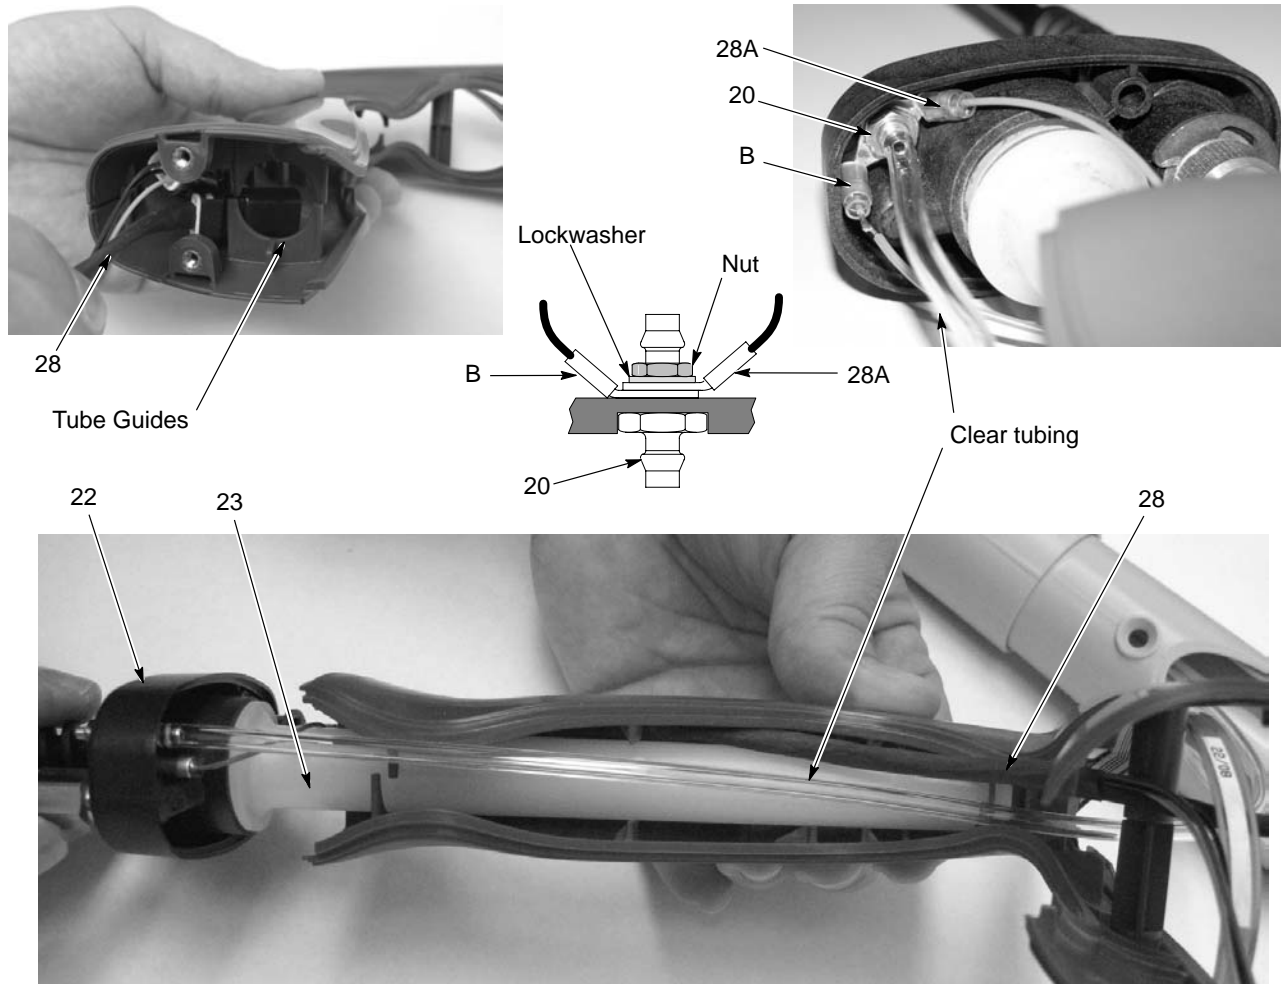

Figure 5-11 Assembling Handles and Base
8. See Figure 5-11. Feed the cable (28) connectors into the front of the handle, then slide the inlet tube (23) through the tube guides into the handle assembly while routing the cable (28) through the handle as shown. Stop when the base is about 1.5–2 inches from the bottom of the handle assembly.
9. Connect the 4-mm clear tubing (part of filter assembly, item 4) to the barbed fitting (20) in the handle base.